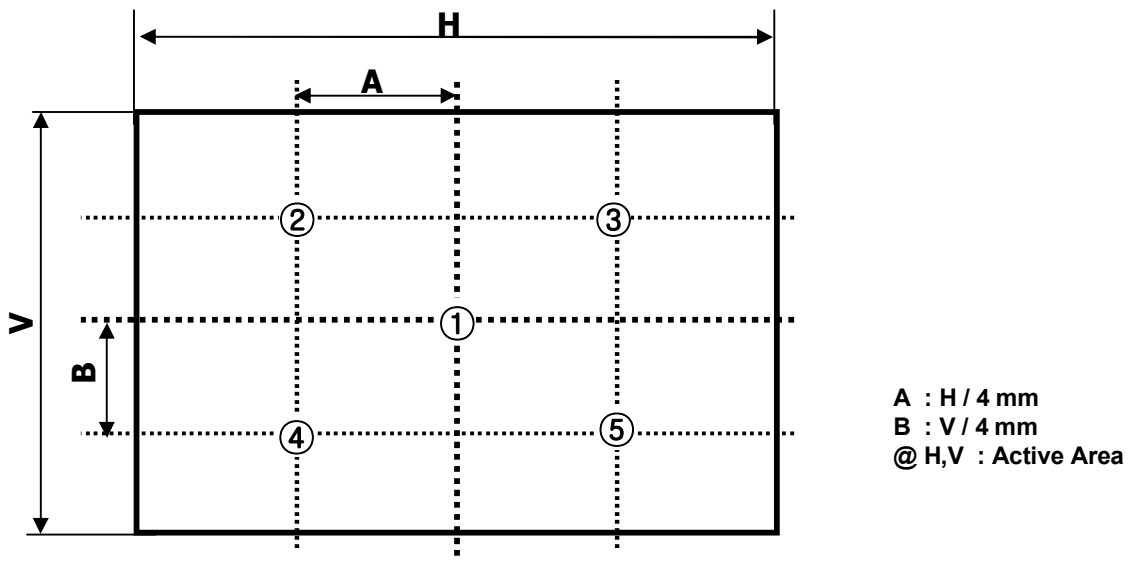

FIG. 2 5 Points for Luminance Measure
$$n = \text{the Position number}(1, 2, 3, 4, 5). \text{ For more information, see FIG 2.}$$
2. Surface luminance are determined after the unit has been 'ON' and 1 Hour after lighting the backlight in a dark environment at $25 \pm 2^\circ\text{C}$. Surface luminance is the luminance value at center 1-point across the LCD surface 50cm from the surface with all pixels displaying white. For more information see the FIG. 2.
For more information, see the FIG. 2.